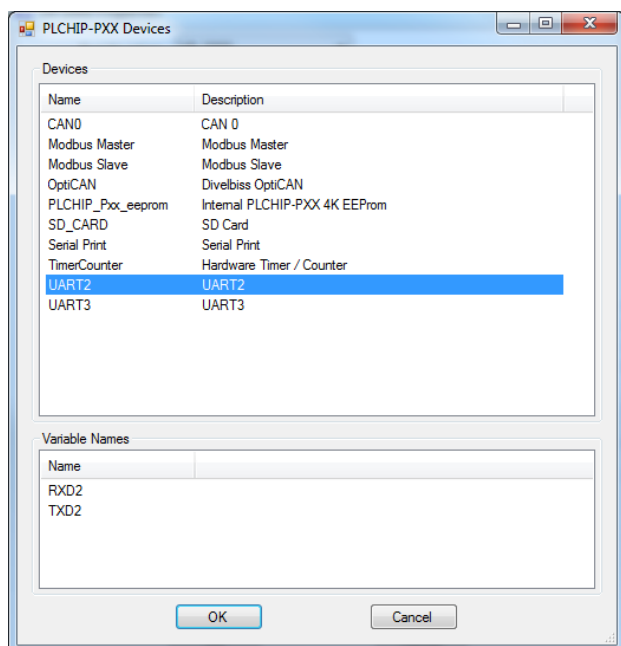

Figure 2-43 - Add UART2 Device
4. Locate **UART2** in the *Devices* pane. Click to select (highlight) UART2. Refer to Figure 2-43. Click **OK**. The *UART2 Properties* dialog will open.